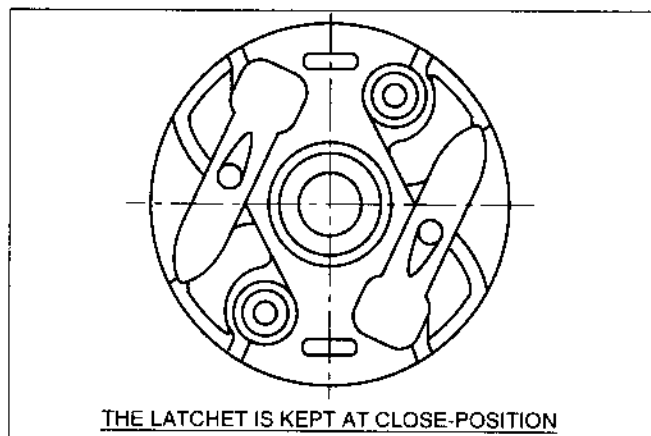

Fig. 9-5
(2) Setting the attachments
- 1 : Set the latchet into the reel. (Fig. 9-5)